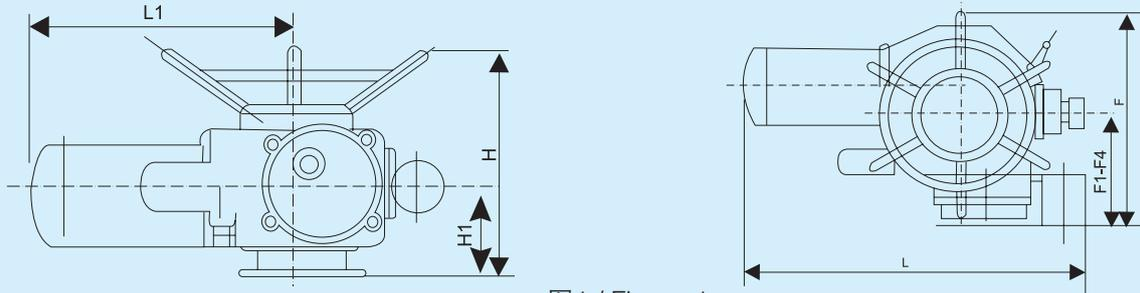

图1 / Figure 1
4.1 外形和外形尺寸(见图1和表2) Outline and outline dimension (refer to Figure 1 and Table 2)